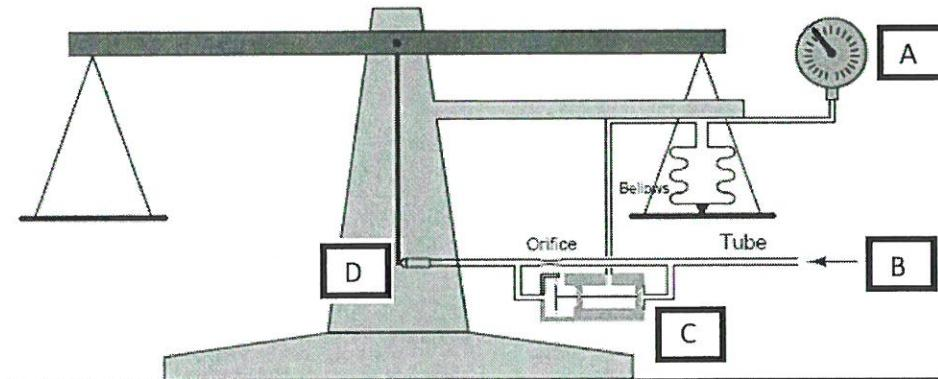

Figure 3(b)/ Rajah 3(b)
- CLO2 (b) By referring to Figure 3 (b), write the instrument principle operation and the name of A, B, C, and D.